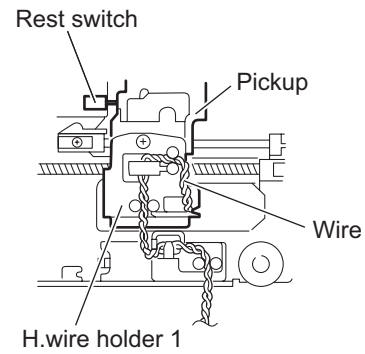

Fig.7
- (2) Move the head lifter in the direction of the arrow, disengage the joints **d** and **e**.
3.3.4 Removing the MD head (See Figs.7 and 8)
- From the bottom side of the main body, remove the wire from the H.wire holder 1. (See Fig.7.)
- When attaching the wire, fix it to the H.wire holder 1 on the bottom side of the pick up. (See Fig.7.)